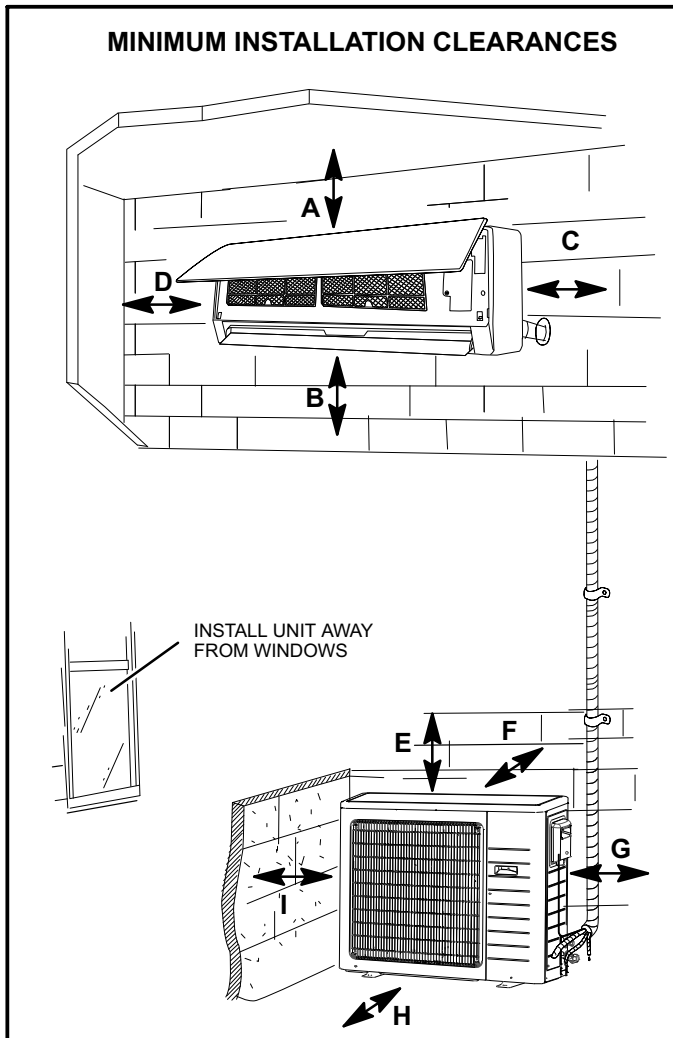

FIGURE 2
Refer to figure 2 for mandatory installation clearance requirements.
- * When possible, do not install the unit directly outside a window. Glass has a very high level of sound transmission. For proper placement of unit in relation to a window see the provided illustration in figure 2.
Minimum clearances must be maintained as specified in figure 2. In addition, the following items should be considered: